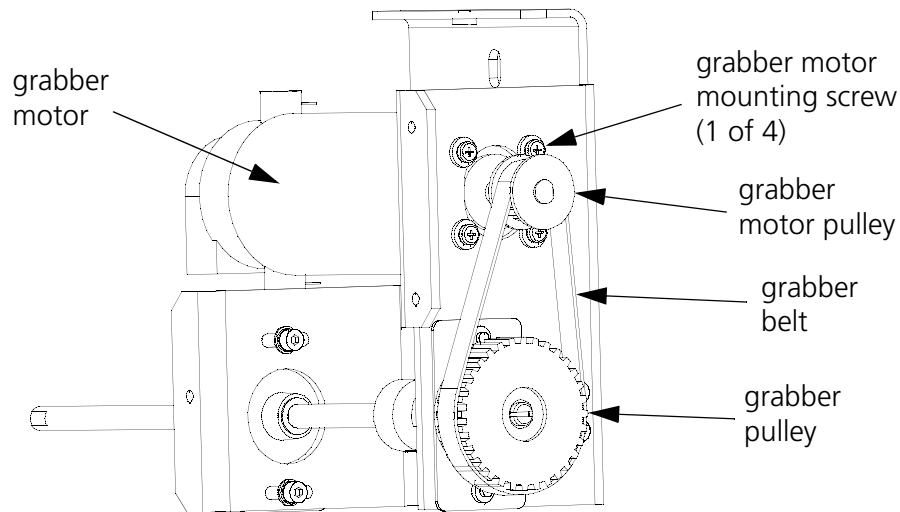

Figure 3-34
2. Refer to Figure 3-34 and loosen, but do not remove the grabber motor mounting screws.
2. Adjust the grabber motor belt tension by loosening the four grabber motor mounting screws (see Figure 3-34) and moving the motor to make the belt more or less taut. When tightening the belt tension, use hand pressure only on the motor. No additional force is needed.
4. Tighten the four (4) grabber motor mounting screws and check all other hardware for tightness.